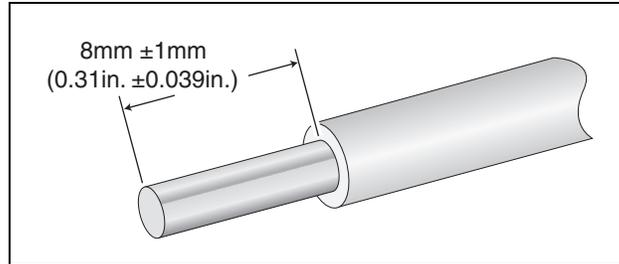

Figure 34. Stripped Wire
- With a 14-gauge wire-stripping tool, strip the three wires in the tray cable coming from the DC input power source to  $8\text{mm} \pm 1\text{mm}$  ( $0.31\text{ in.} \pm 0.039\text{ in.}$ ), as shown in Figure 34 on page 75.